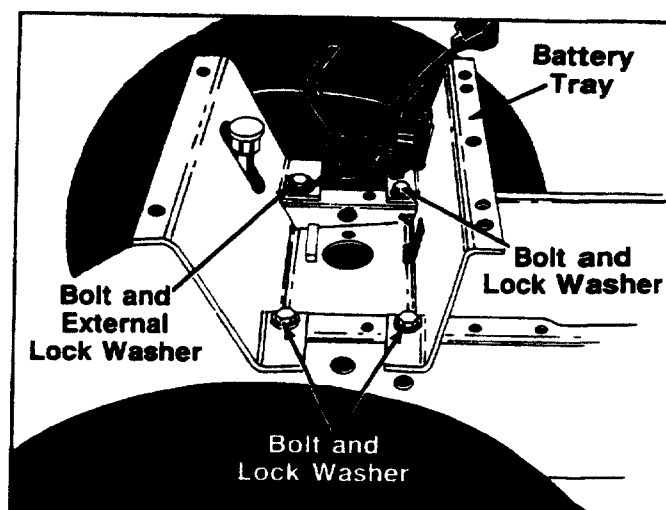

FIGURE 9.
19. Remove the battery tray from the chassis. See figure 9. Remove four hex bolts, three lock washers and one external lock washer.